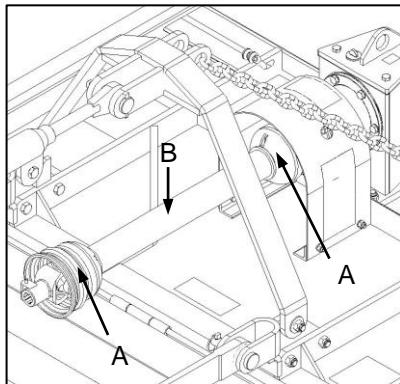

Fig. 6
- ✓ Apply grease to the universal joints (Fig. 6-A) and telescopic tubes (Fig. 6-B) of the PTO shaft.
- ✓ Ghries die kruiskoppelings (Fig. 6-A) en teleskopiese buise (Fig. 6-B) van die kragaftakkeras.